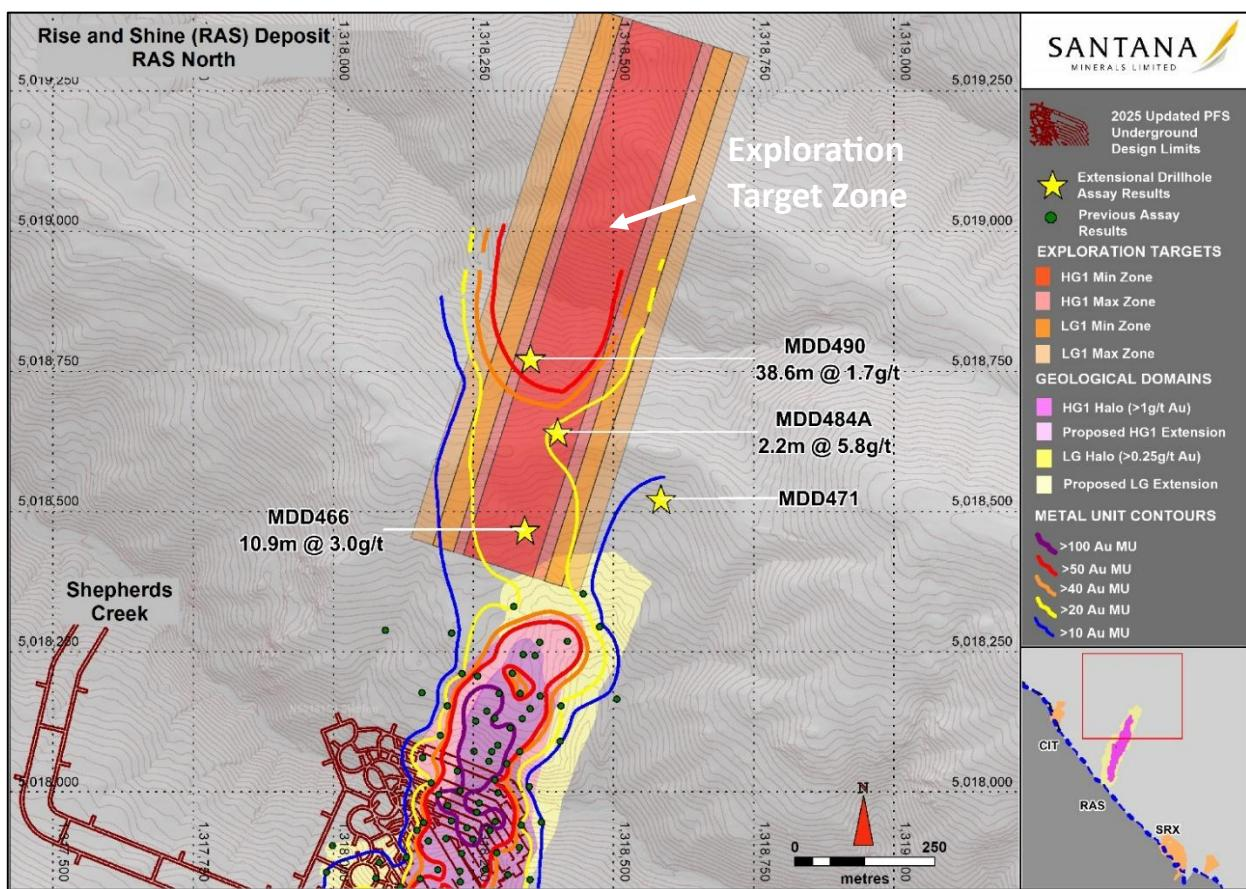

Figure 1. Plan View of exploration target including MDD490 location
The Exploration Target follows the established RAS deposit geometry, comprising a central high-grade (HG) zone surrounded by lower-grade (LG) mineralisation. As depicted in Figure 1, the target extends the projection of RAS mineralisation by 1,000m north of MRE published 4th March 2025. Table 2 below outlines the minimum and maximum estimates for HG and LG domains, in tonnes, grade and potential ounces.